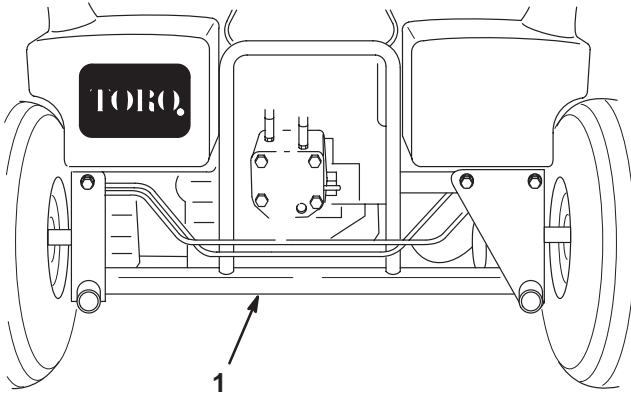

Figure 1
3. Place a jack under the square tube of the frame (Fig. 1).